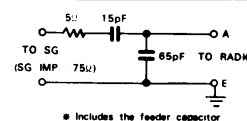

Fig. 1 Antenna Pad
- Connect the signal generator to the antenna receptacle through the antenna pad. (Fig. 1)